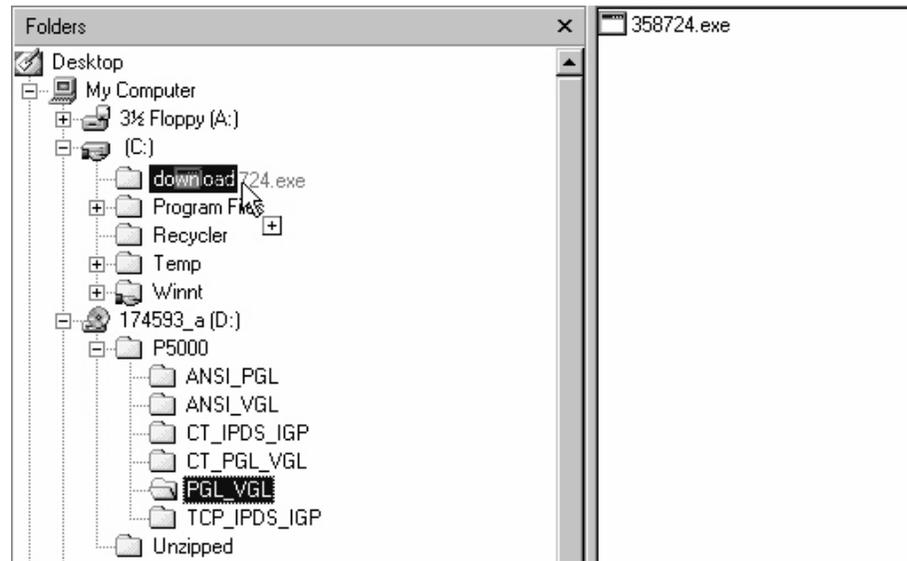

Figure 22. Copying the Emulation File to the Download Directory
- Copy the file to the **download** directory you created in step 8. You may need to hold the **Ctrl** key to make sure a + (plus sign) appears to the right of the pointer. (See Figure 22.)
11. Copy the file to the **download** directory you created in step 6. You may need to hold the **Ctrl** key to make sure a + (plus sign) appears to the right of the pointer. (See Figure 22.)